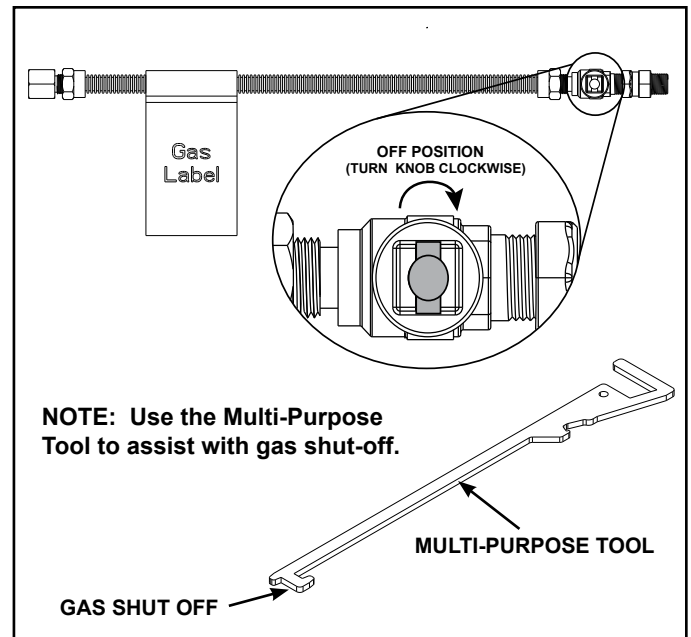

Figure 3 Gas Shut-off Detail / Multi-Purpose Tool
- Turn off gas to valve. Red gas shutoff knob is located on ball valve. See Figure 3.
20. Turn on gas to valve. Red gas shutoff knob is located on ball valve. See Figure 3.